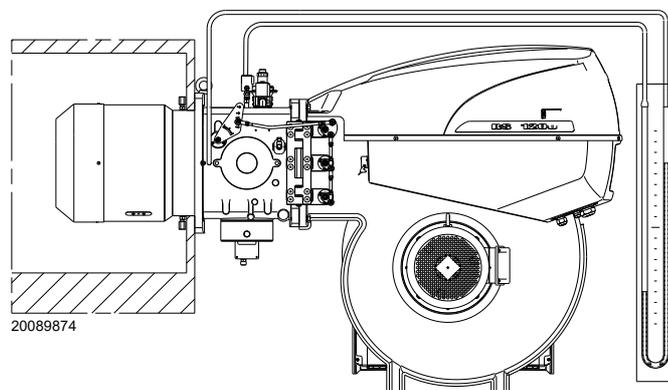

Fig. 26
- Fit a U-type pressure gauge or a differential pressure gauge (Fig. 26), with socket (+) on the gas pressure of the pipe coupling and (-) in the combustion chamber.
Once the above steps are complete, the burner should light. If the motor starts up, but the flame does not appear and the control box goes into lockout, reset it and wait for a new ignition attempt. If ignition is still not achieved, it may be that gas is not reaching the combustion head within the safety time period of 3 seconds. In this case increase gas ignition delivery. The arrival of gas at the pipe coupling is indicated by the U-type pressure gauge (Fig. 26). If further burner lockouts occur, refer to the "Release procedure" given in the equipment manual supplied.